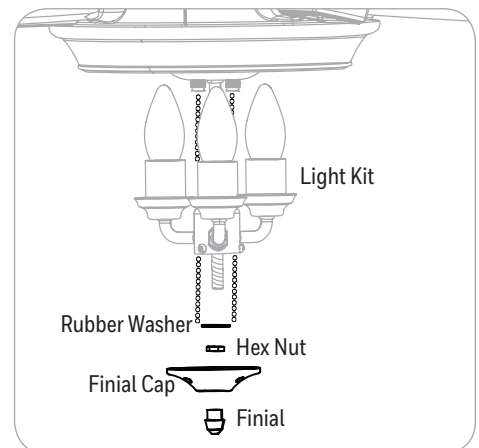

Figure 5.9
- Remove the finial, finial cap, hex nut, and rubber washer from the threaded rod on the light kit (Figure 5.9).